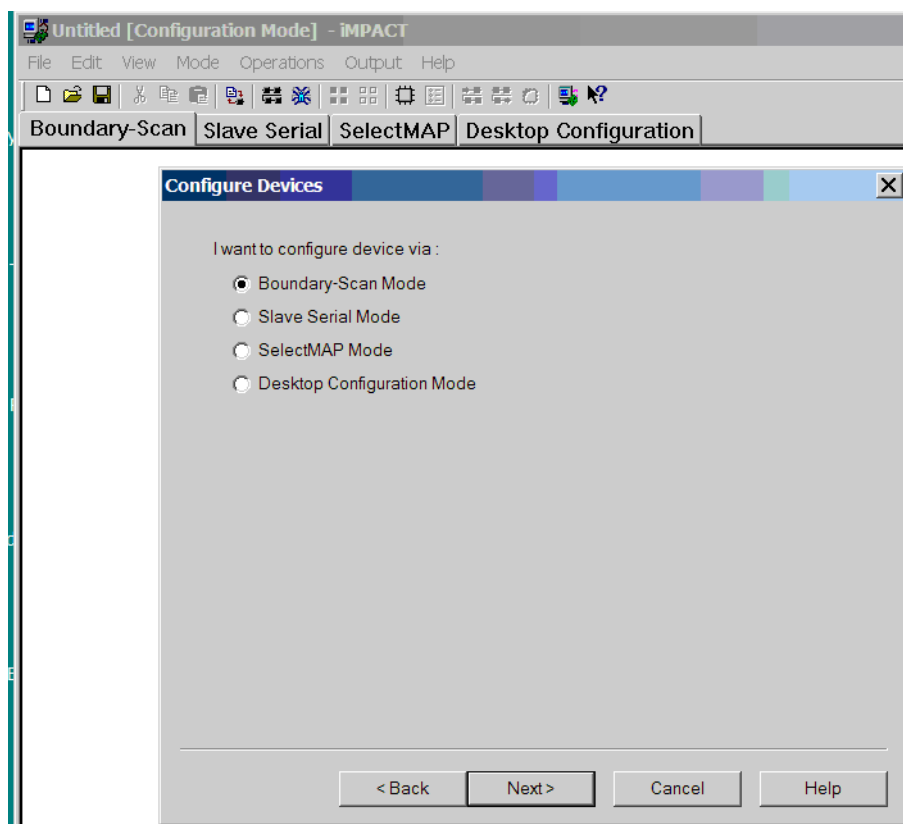

Figure C-2: Selecting Boundary Scan Mode
4. Click on Next and select the Boundary Scan Mode from the option menu shown in Figure C-2.